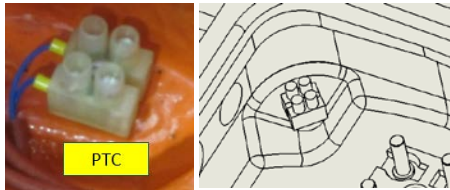

Figure 6.1 PTC Thermistor
9、Except for vibrators with fully potted junction boxes, the PTC thermistor is installed in the standard SIZE60-130 vibrator junction box as shown in Figure 6.1. The user can connect the temperature control module as needed.